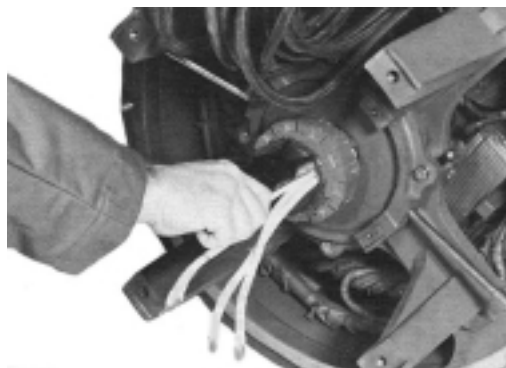
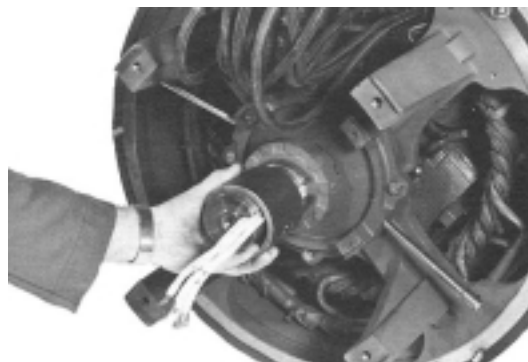

Figure 6-67
Figure 6-68
3. Install snap ring. (Figure 6-67.) Use a piece of pipe slightly larger than the shaft (2-3/4 inches) to push the rotor back against the loading spring until the snap ring seats in the slot. (Figure 6-68.)